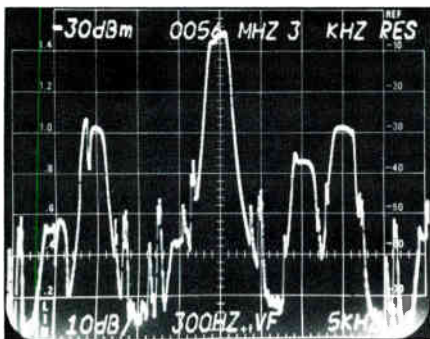

Figure 6-3 Co-channel signal with +10 kHz carrier offset
3. With the analyzer's FREQUENCY SPAN and the RESOLUTION controls locked together, decrease the frequency span to 5 kHz/DIV while keeping the trace centered. The display should look similar to figure 6-3 with video modulation (random spikes) running through the display. If co-
2. Additional carriers may be observed from strong co-channel stations. These carriers are the 15 kHz sidebands caused by the horizontal sync pulses on the co-channel signal. This can be seen at the first graticule line from the left in figure 6-3.